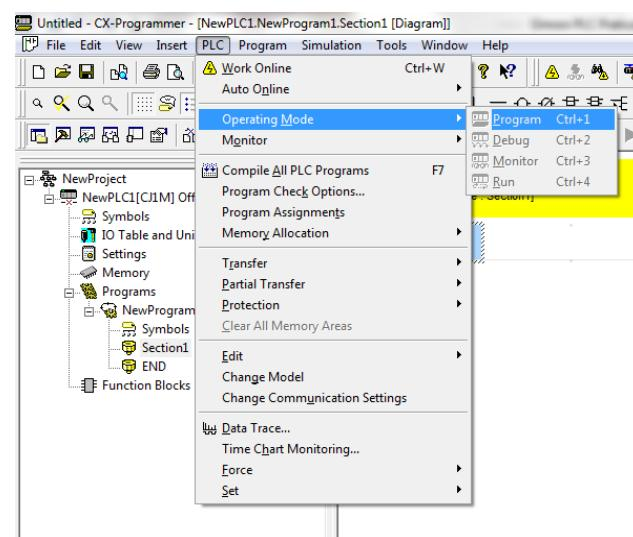

Figure 1.8 Change to program mode
8. After being connected make sure the PLC is in program condition, to set it click **PLC Menu→Operating Mode→Program** or by pressing **Ctrl+1**, see figure 1.8.